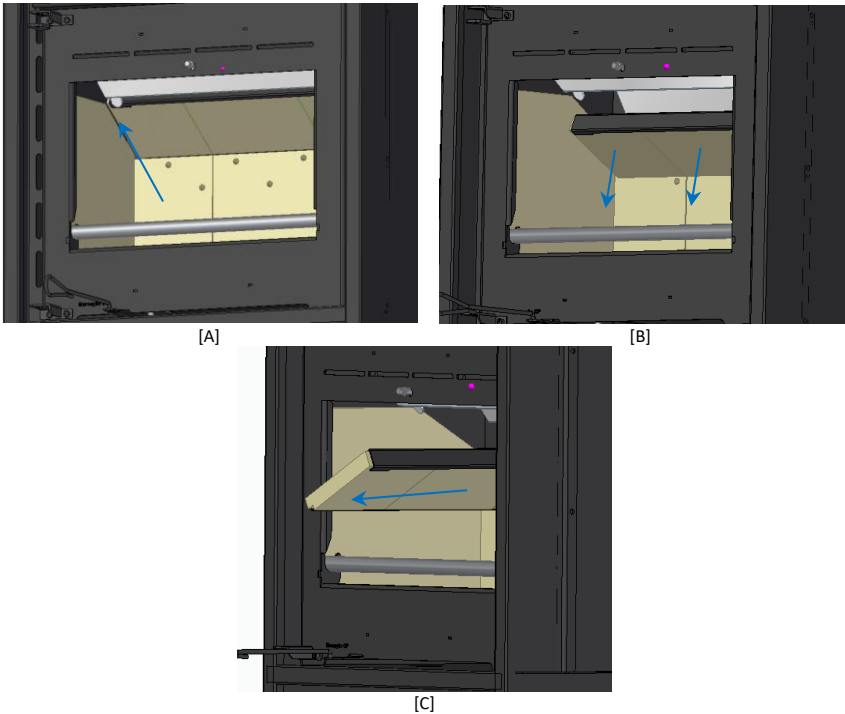

Figure 45 – Sequence that must be followed to remove the fume baffle - M12F Eco and M20 Eco
2. Lift the baffle a little so that it is free from the upper baffle support. After it is free from the supports, you should remove the baffle by moving it downward, Figure 45 [A] and [B];
3. With the gap created previously, rotate the baffle relative to the side and in the downward direction, Figure 45 [C], and remove it through the door;